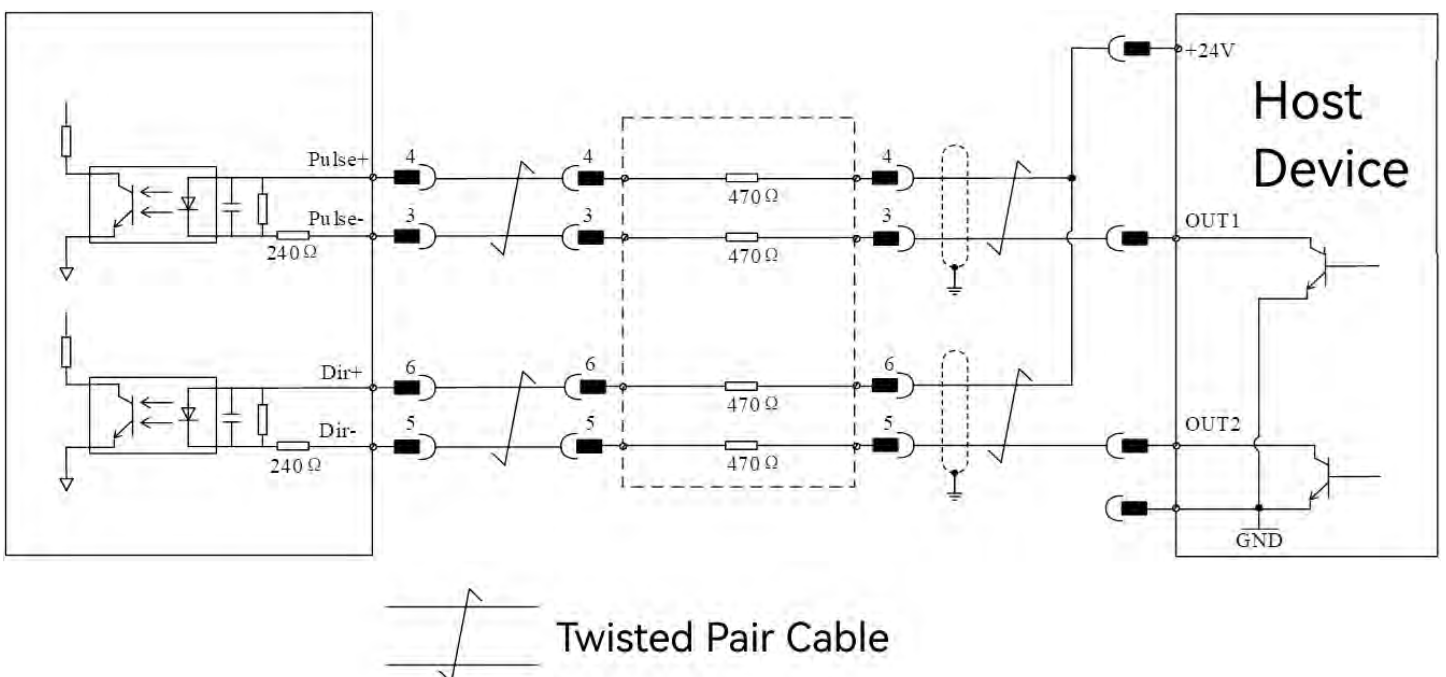

Figure 6-14 Open collector pulse command input terminal wiring diagram
(2) Open collector mode (as shown in Figure 6-14):